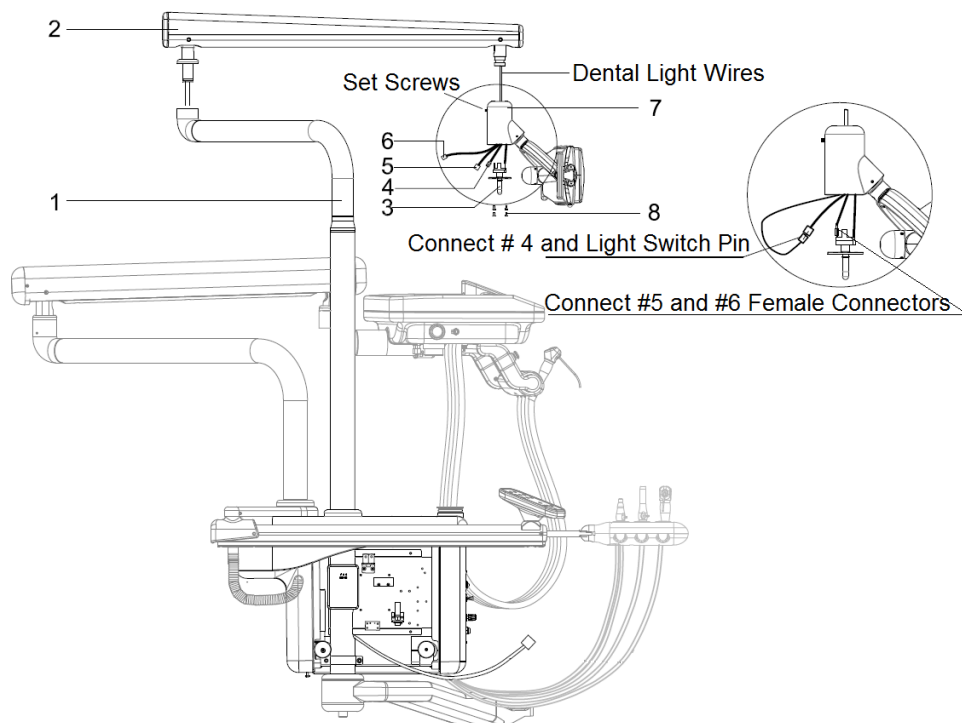

Figure 12. Dental Light and Flex arm Installation
1. While holding up the flex arm ②, pull all the wires through the inside of the rotating arm ①, and light post to the dental light elbow arm's opening, then insert the flex arm ② into the rotating arm ①. (See Figure 12)
2. Remove the four light switch screws ⑧ and save them for installation later.
3. Pull all the dental light wires from the flex arm ② into the dental light wiring compartment.
5. Install the set screw ⑦ and adjust it for smooth rotation movement on the dental light. The goal is to allow easy relocation of the dental light while having it lock in the final position.
7. Connect dental light male ⑤ and female ⑥ connectors together as shown on Figure 12.
8. Connect electrical wire ④ to the dental light on/off switch pin ③.
9. Reinstall four light switch screws ⑧ to the switch housing.